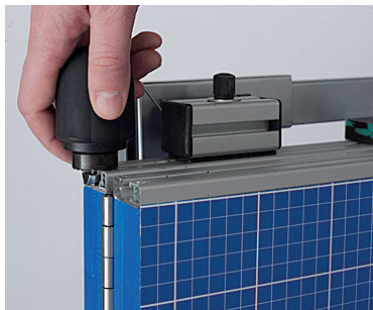

Fig. 2a
- Then undo the locking elements for the folding feet (2 x No. 6) located on the folding hinge of the base (Fig. 2a):
- Open the transportation lock (No. 20) and unfold the feet (No. 7 Fig. 2b), then tighten the locking elements for the folding feet (2 x No. 6) by hand (Fig. 2a).